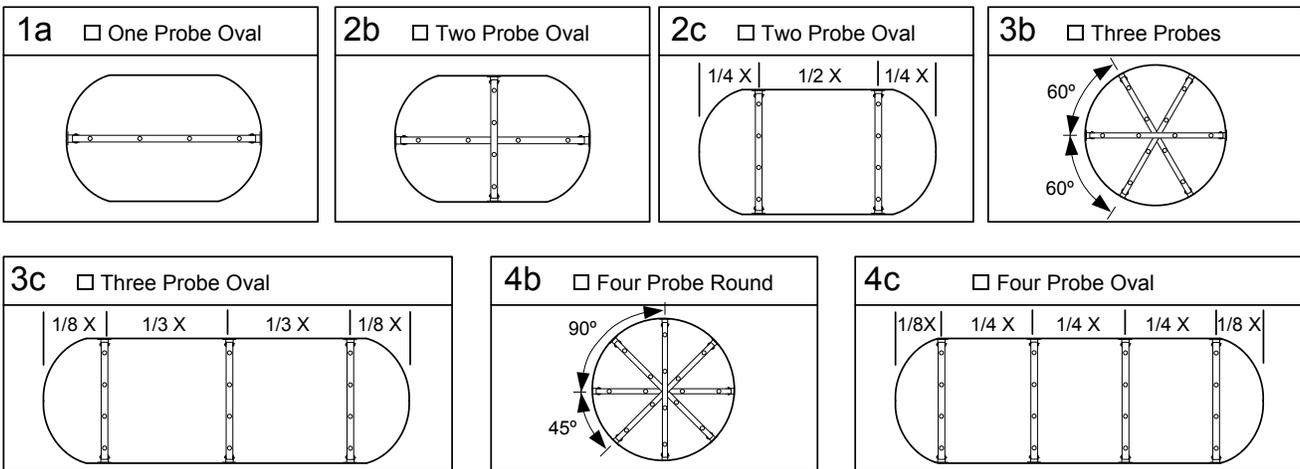

Figure 3. Internal Mount Probe Spacing/Configuration
On applications where multiple probes are to be installed at a single measurement location, install probes in accordance with Figure 3 (Internal Mount Probe Spacing/Configuration). In addition, when traverse data is desired (Gold Series GP1 probes only), place the lowest numbered probe at the top of the duct for horizontal mounting. For vertical mounting, place the lowest numbered probe on the left side of duct when viewed from the upstream side of the mounting location, with cables exiting on the higher side to prevent any potential moisture from accumulating on the heated sensors.
1. Each probe package is factory labeled for the specific location and duct size for which it is designed. Orders for locations requiring multiple probes at a specific location are typically banded and packaged together. Determine the specific duct location for the probe(s) as indicated on the engineer's plans showing where the airflow measuring station is to be located. Refer to Figure 3 for probe spacing and orientation.
3. The first dimension of the probe size indicates the length of the probe. The second dimension indicates the specific duct internal mounting inside dimension 'X' (including internal insulation). On ducts with internal insulation that cannot be removed, adjust 'X' to equal the internal mounting inside dimension, minus two times the thickness of the insulation. Refer to Figure 2 and verify that the probe is the correct size for the application duct size. Mark a point on the center of the inside of the duct at 'X'. Draw a line on the inside of the duct at this point that is perpendicular to the edge of the duct. This line will be used to locate the position of the probe mounting brackets. The probe quantity for the measurement site determines the probe installation configuration/orientation as shown in Figure 3.
6. Mark and draw a line around the inside circumference of the duct at the point where the probe brackets are to be installed. The number of probes for this specific measurement site determines the probe installation configuration and orientation as shown in Figure 3. **Applications with multiple probes must be staggered 1.5 to 2 in (38.1 to 50.8 mm) from each other as shown in Round Duct Probe Spacing detail of Figure 4 to prevent probes from intersecting at the center of the duct.**
7. Using the Round Duct Probe Spacing detail of Figure 3, locate and mark the individual probe mounting location(s) on the circumference line drawn in step 6.
9. Mark and draw a line around the inside circumference of the duct at the point where the probes are to be installed. For oval duct applications, orientation is as shown in the Oval Duct Probe Spacing table and detail application illustrations of Figure 3. **In configurations '2b', '3b' and '4b', probes must be staggered 1.5 to 2 in (38.1 to 50.8 mm) from each other in order to prevent probes from intersecting at the center of the duct.**
10. Using the Oval Duct Probe Spacing detail of Figure 3, locate and mark the individual probe installation location(s) for the cable exit end of each probe bracket on the circumference line drawn in step 9.